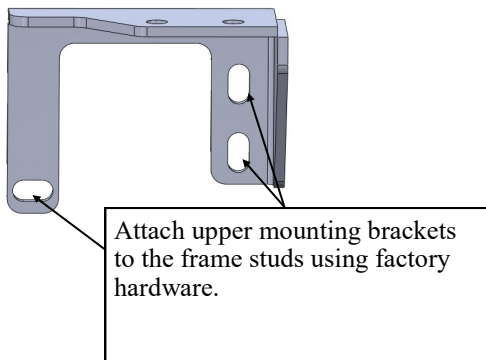

FIG 1
3. Locate the four studs on the drivers side bumper frame, remove the top two factory nuts. Locate the single stud on the outside of the bumper frame and remove the factory nut; use the 14mm medium depth socket (Snap On part# FMS14 or equivalent) for this step. Take the drivers side upper mounting bracket and attach it to the bumper frame studs using the factory hardware. Do not fully tighten at this time. Repeat this step for the passenger side. FIG 1 & 2